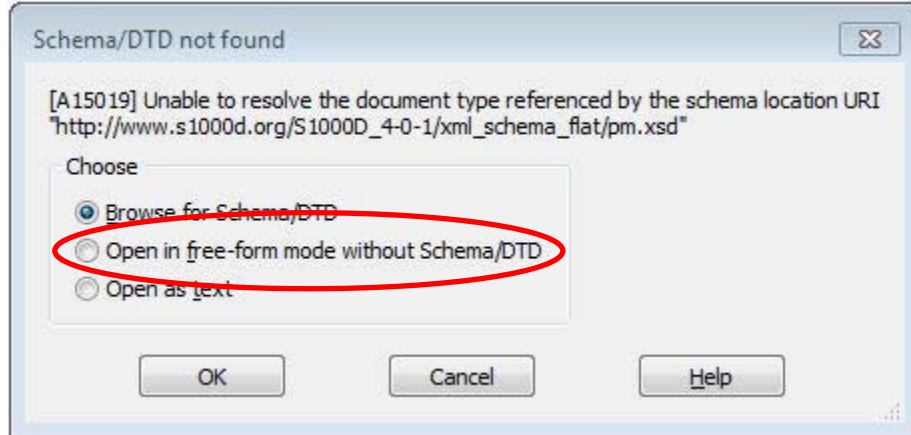

FIGURE 1. Arbortext – no Internet connection.
- 3) If there is no available Internet connection, a popup window similar to FIGURE 1 is displayed. Select the "Open in free-form mode without Schema/DTD" to view the raw XML.